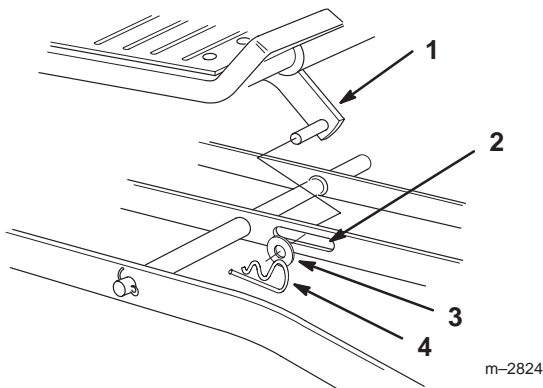

Figure 5
- Slide the mower under the chassis from the right side and align attachment lift with slot in center level bar (Fig. 5).
- Place attachment lift pin into slot in center lever bar and secure with a washer (3/4 in.) and a hairpin cotter (Fig. 5).